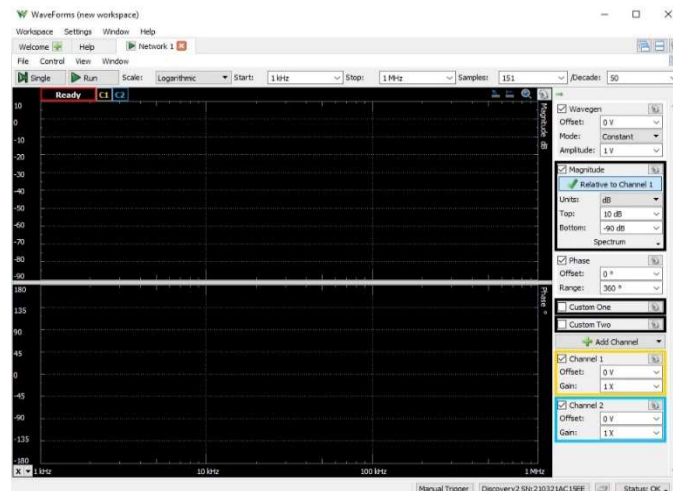

Figure 5.5. The Network Analyzer in the AD2.
window for the network analyzer of the AD2. You should see a screen similar to that shown in Figure 5.5.
30. On the righthand side, there should be five boxes already selected as shown in Figure 5.5: Wavegen, Magnitude, Phase, Channel 1, and Channel 2. Check that these are the boxes selected then adjust the remaining settings as follows: